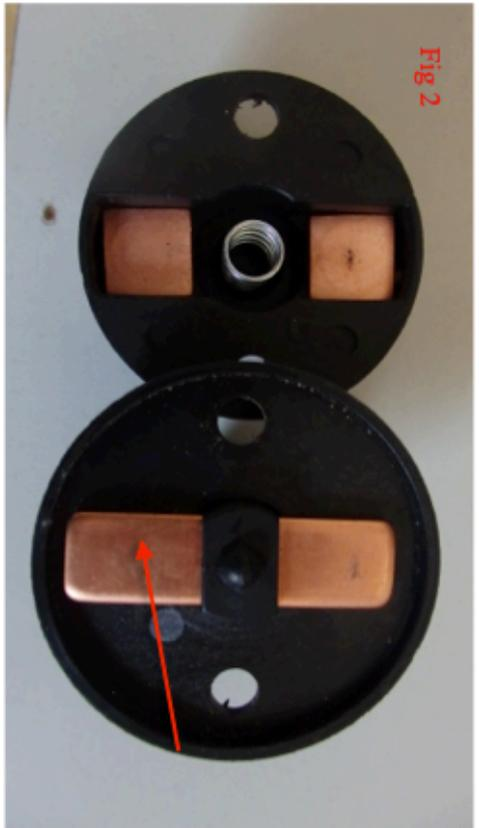
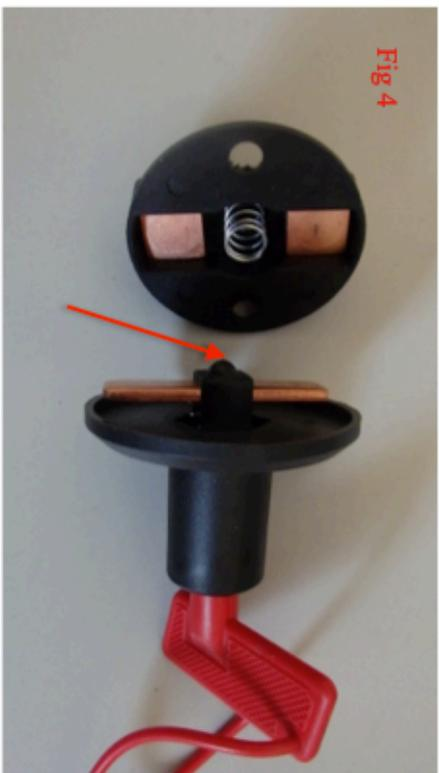

Fig 2
Fig 4
(1) The contacts as shown in the figures are not in any way corroded – in fact they look a bit too clean to be a moderate to high current switch ! Fig 2 shows evidence of contact touching on the upper contacts. Signs of good contact are not readily visible.
(4) Fig 2 shows what may have been the problem. The upper contact is not central, arrow points towards the longer side. Fig 4 the arrow points to the small moulded pin that holds the moving contact, through a small hole in the contact, in its fixed position. Clearly the moving contact while not being central is so close to the lower edge of the case that it may well snag and jam thus preventing closure. My feeling is this may be the problem.